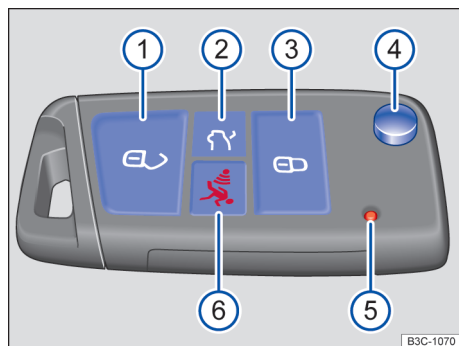

Fig. 48 Remote control vehicle key with panic button.
Key to fig. 48:
- *To fold the key bit out:* Press button → fig. 48  to release the key bit and fold it out.
Press the panic button → fig. 48  only in emergencies! After pushing the panic button, the horn will sound and the turn signals will flash. Press the panic button again or press the  button on the remote control vehicle key to switch off the panic feature.